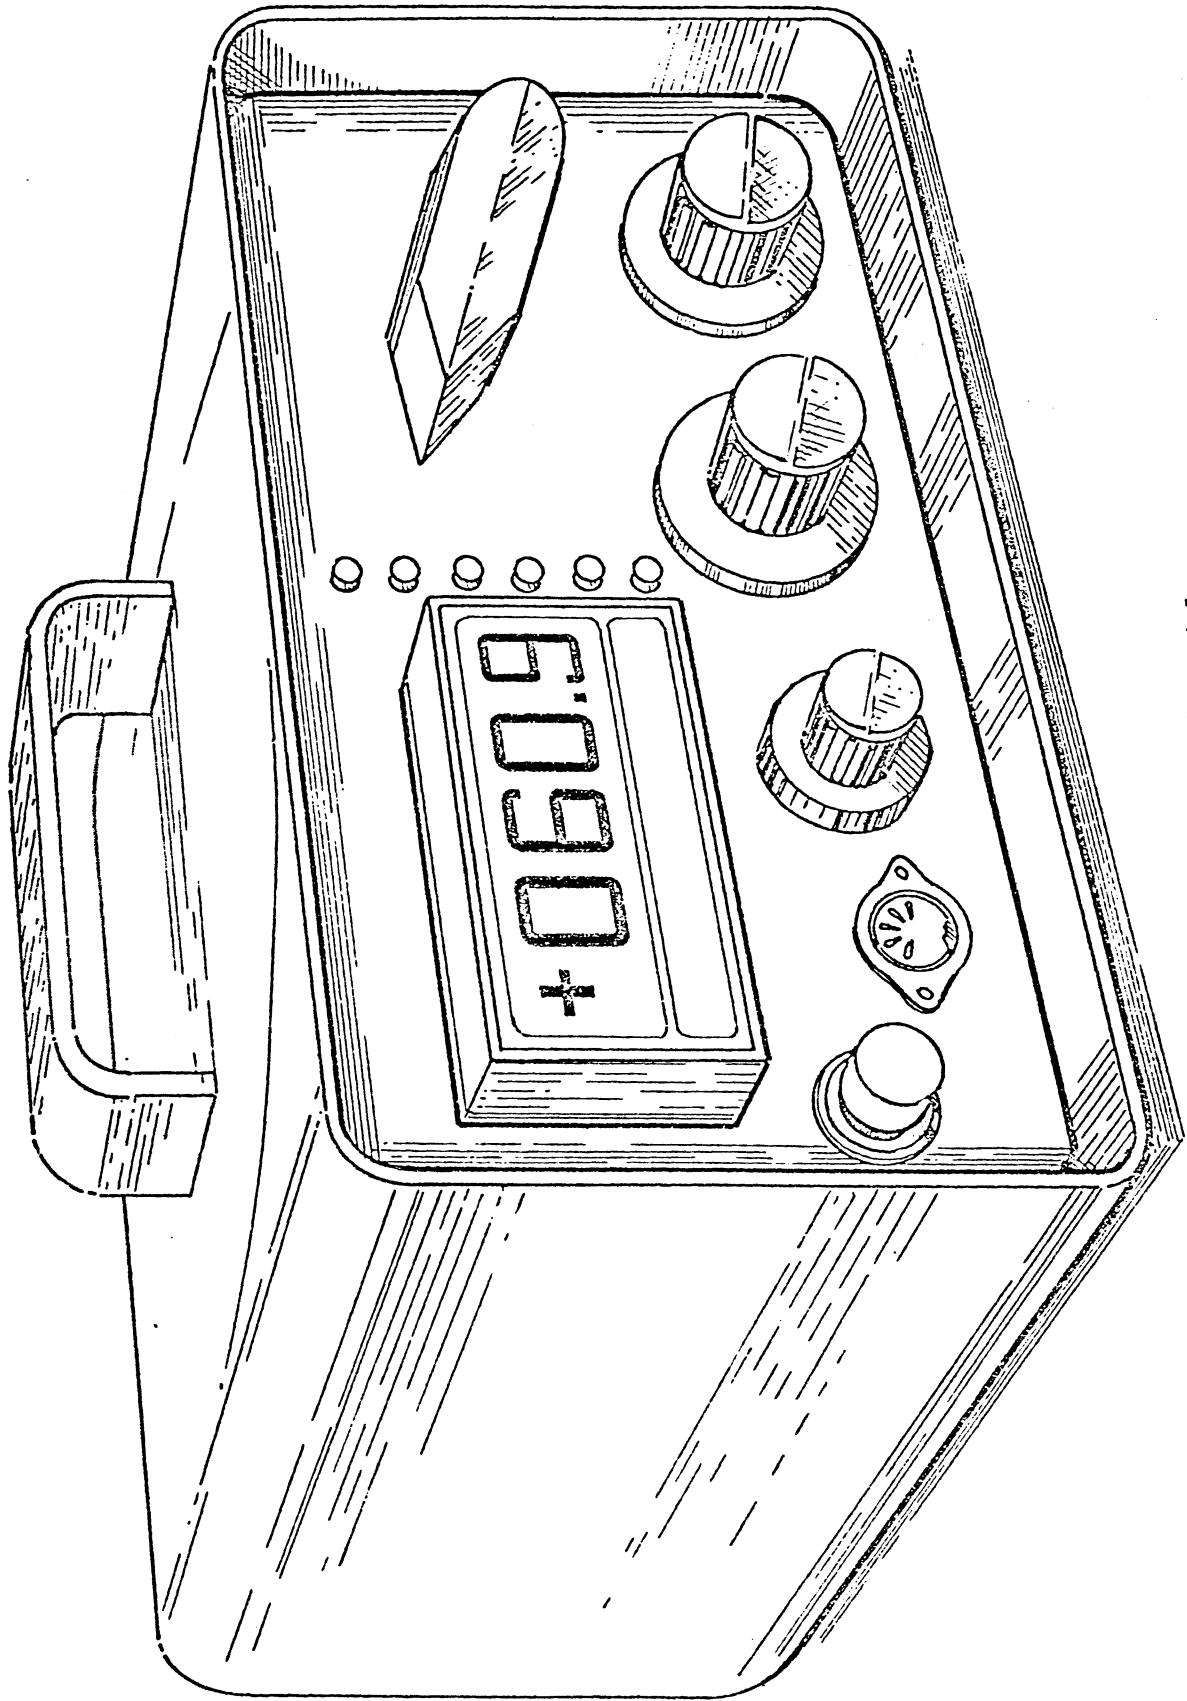

Figure 2: Force monitor electronic module
3. Force Monitor Electronic Module - The force monitor electronic module is shown in Figure 2. This component receives an electronic signal from the load cell, processes this information, and displays strength test results. The operation of this unit is explained in the following two sections.